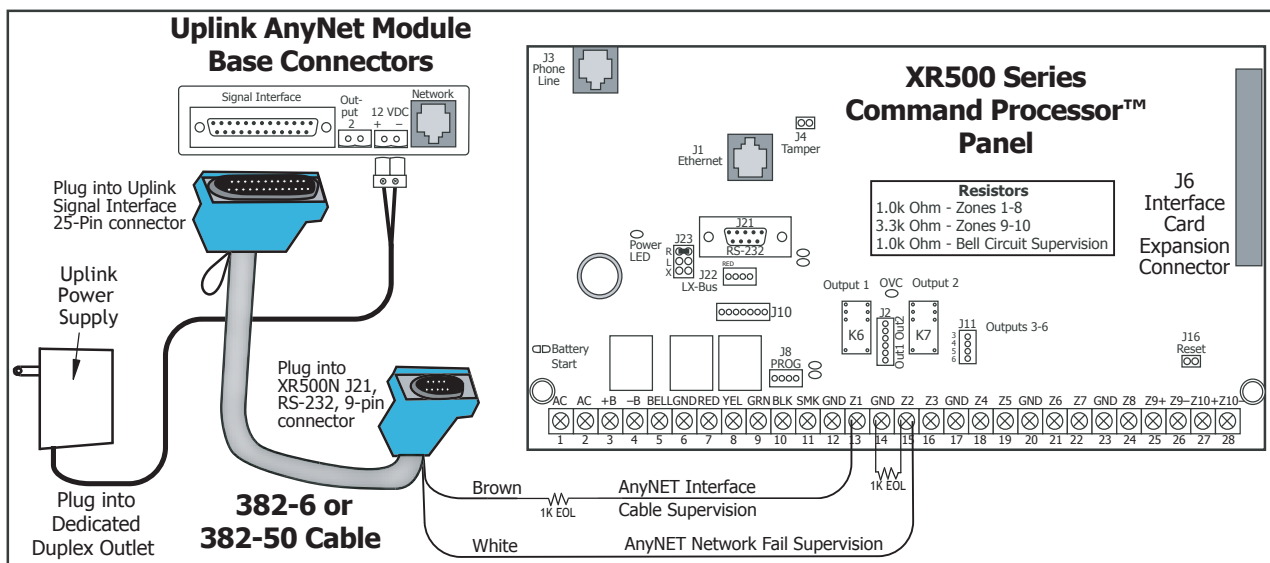

Figure 1: Connecting the AnyNET-DMP Module Using the Uplink Power Supply
1. Verify the jumper on the panel J23 6-Pin header is on the top position next to the letter “R” as shown in Figures 1 and 2.
Refer to Figure 1 and the steps below to connect the AnyNET-DMP Module to the panel.